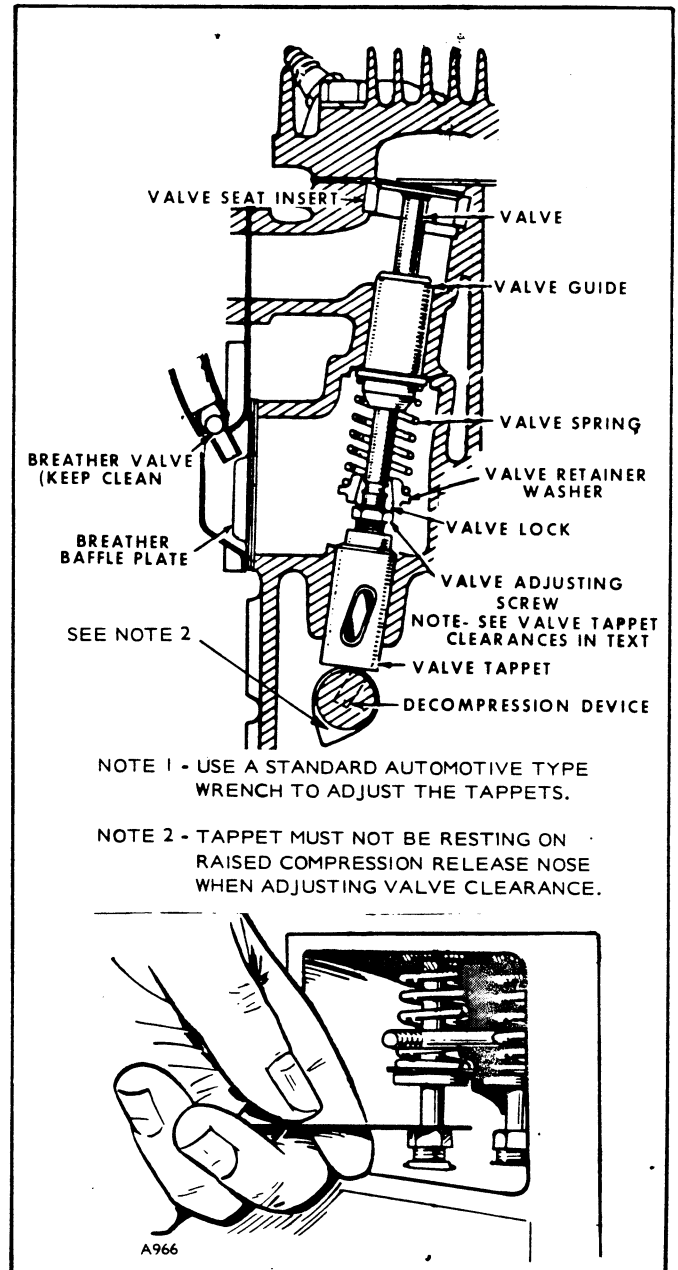

FIGURE 8. TAPPET ADJUSTMENT
2. Turn the engine over by hand until piston reaches top center (compression stroke); then turn flywheel approximately 30° after top center. (Tappet must not be resting on decompression device, Figure 8.)